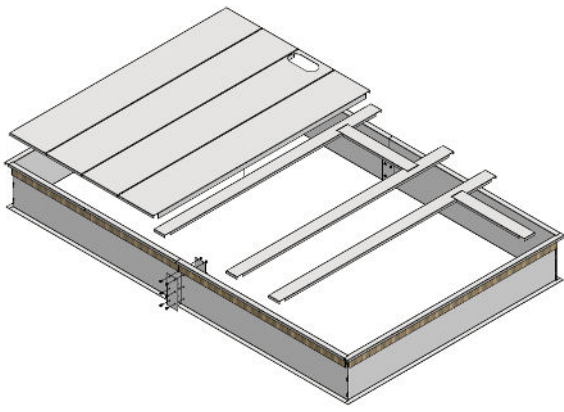
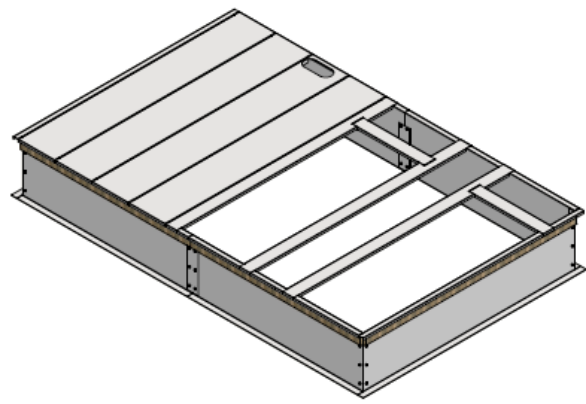

Figure 1
Figure 2
4. Install duct support pieces per Figure 1 and Figure 2.